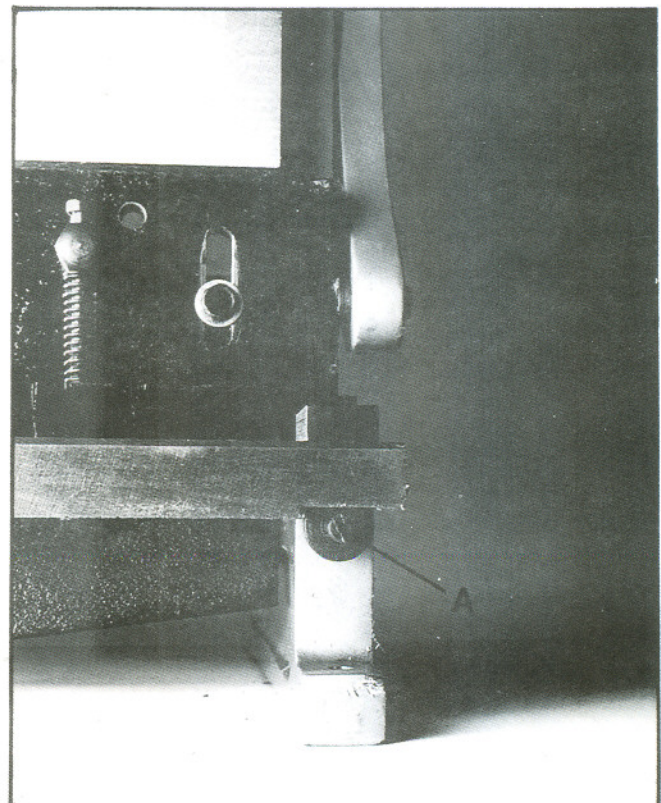

Fig. 8
2. Use adjusting screws (A, Fig. 8) to narrow the gap between the shear and the table to facilitate cutting of thin material.